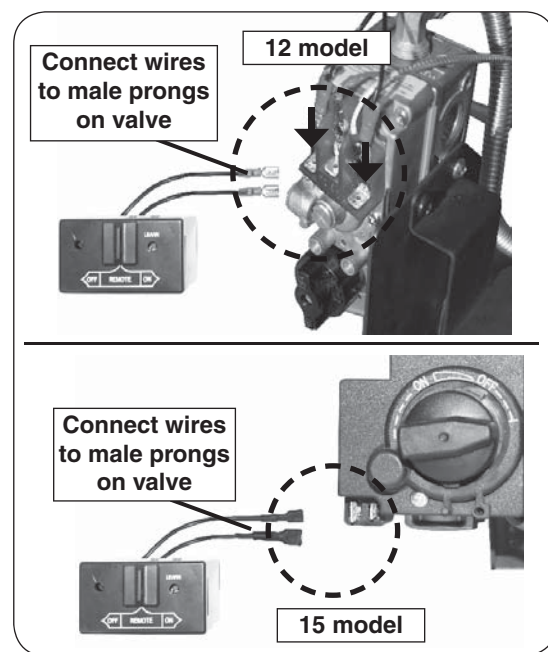

Fig. 19-3 Connect remote receiver to valve
2. Locate the wires coming off of the remote receiver, and connect them to the two male prongs found on the valve (see Fig. 19-3).